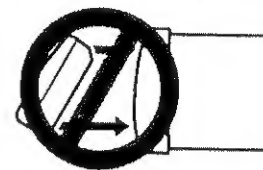
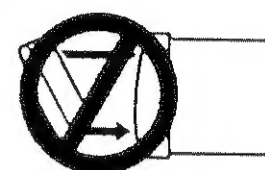
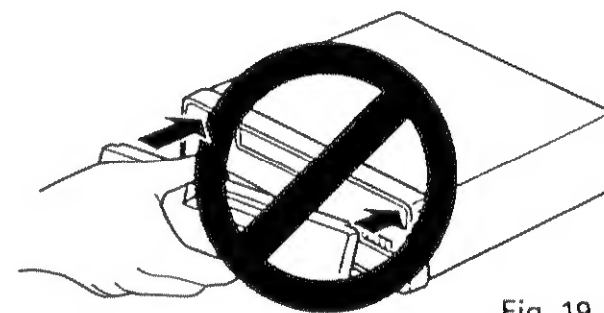

Fig. 17
Fig. 18
Fig. 19
- Install the front panel holding it parallel to the main unit. Installing the panel tilted, as shown in the illustrations below, may cause the hook on the front panel to destroy the main unit's electrodes. (Fig. 17) (Fig. 18) (Fig. 19)